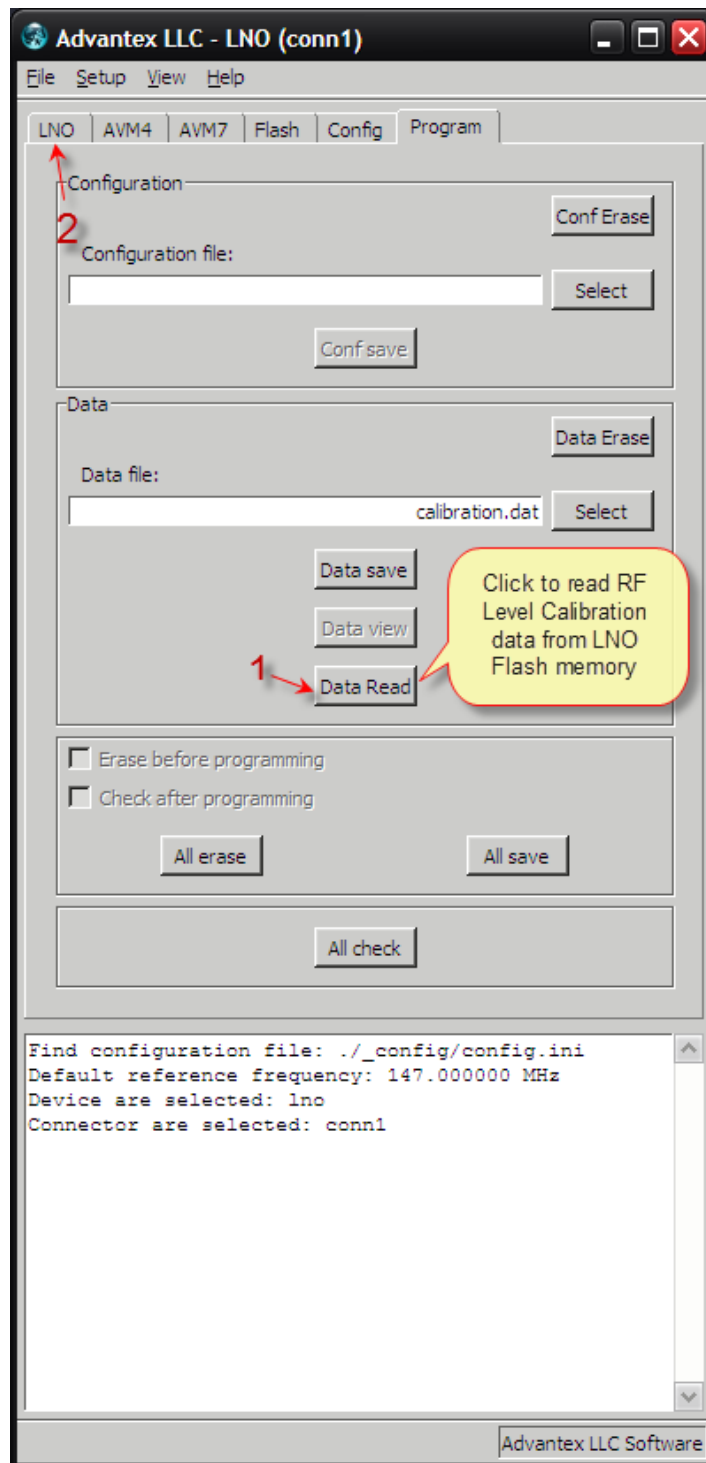

Figure 9: Read calibration data from LNO Flash-memory
9. Select Program tab (fig. 7, Item 2). Press Data Read button (fig. 9, Item 1), wait for the application to download the calibration data from LNO internal memory (the process is indicated in the status bar), then return to the LNO tab (fig. 9, Item 2).